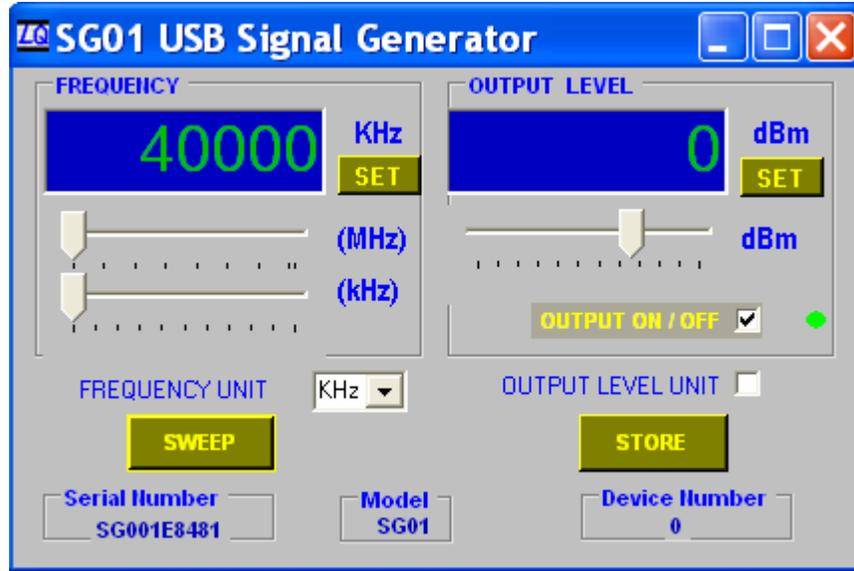
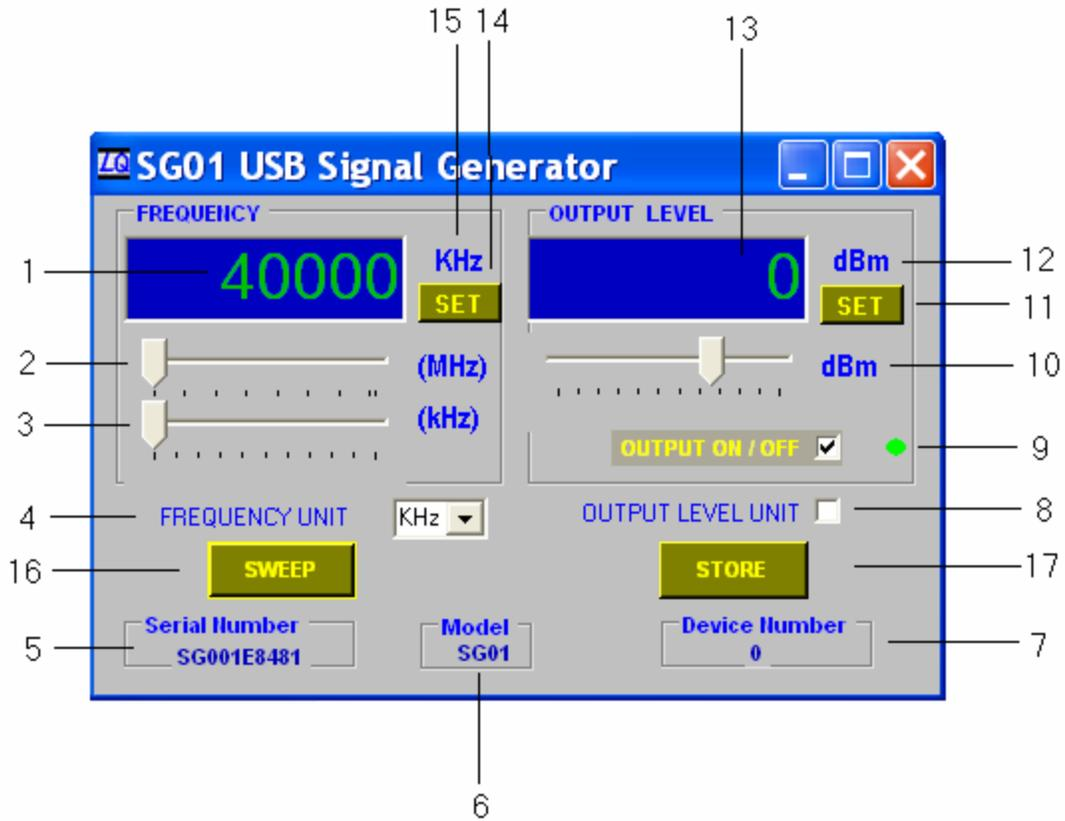

Fig.2 SG01 Control Panel
Fig.3 Items appeared on the SG01 Control Panel
- 2) Second is the SG01 control panel (see Fig. 2), which shows the control functions of the SG01.
Click the serial number in Fig.1, the SG01 Control Panel will appear as Fig.2
Fig.3 illustrates the items which are shown in the Fig.2.
For the convenience to input frequency you can change the frequency unit to be KHz, MHz and GHz through Frequency unit select (refer to Fig.3 item 4).
For the convenience to input output power level, you can change the output power unit to be dBm or dBuV (which is based on 50ohm) by ticking the level unit (refer to Fig.3 item 8).
If you need the SG01 USB Signal Generator working without computer connection, first set the frequency and power level to be desired frequency and power level. Then click “STORE” button (Fig.3 item 17), then the current setting will be saved to USB Signal Generator.